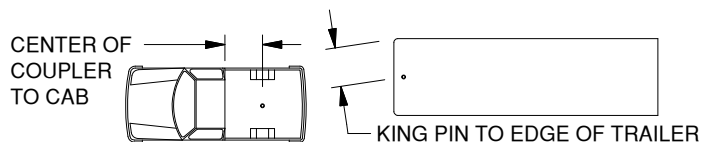

Figure A2: Truck and Trailer
2. **Evaluate clearance.** Determine if there is clearance between each truck and trailer combination before towing. Measure from the center of the coupler to the cab of the truck and from the king pin or pivot point of the trailer to the furthest forward corner of the trailer, see Figure A2. Compare these measurements to ensure proper clearance when towing. Also, inspect the clearance between the bed sides and the underside of the front of the trailer to ensure there is room for the pitch and roll of the trailer while towing.